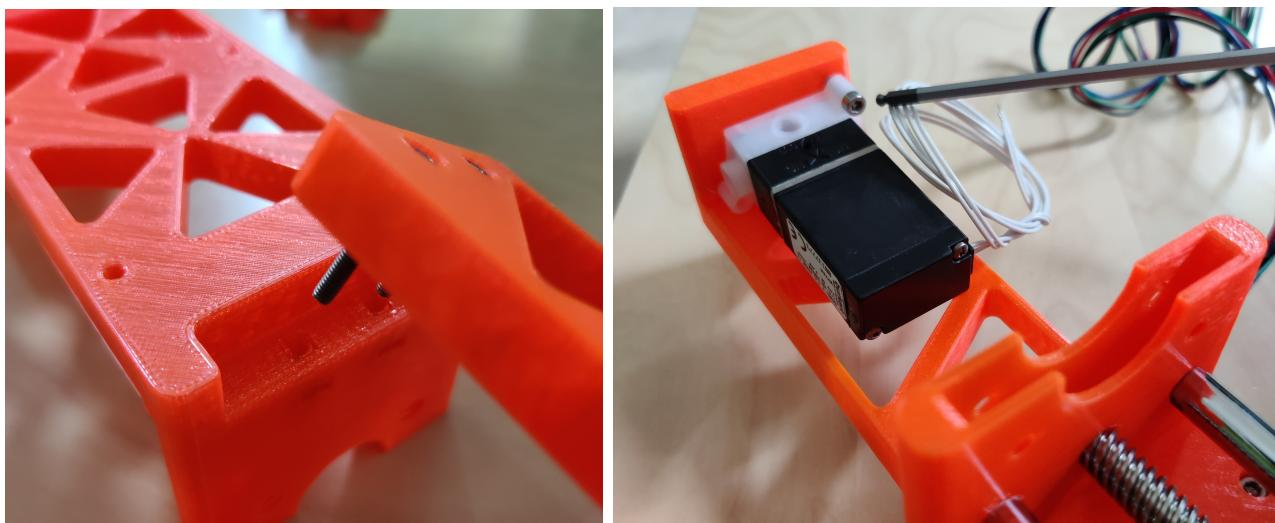

Fig. 4.10
9) Now attach the valve fitter to the indent in the pump body using the remaining two M20 screws (Figure 4.10, left). Finally, install the valve to the valve fitter using the two M16 screws (Figure 4.10, right). All done!